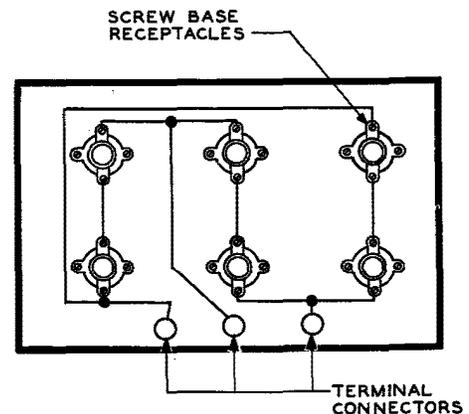
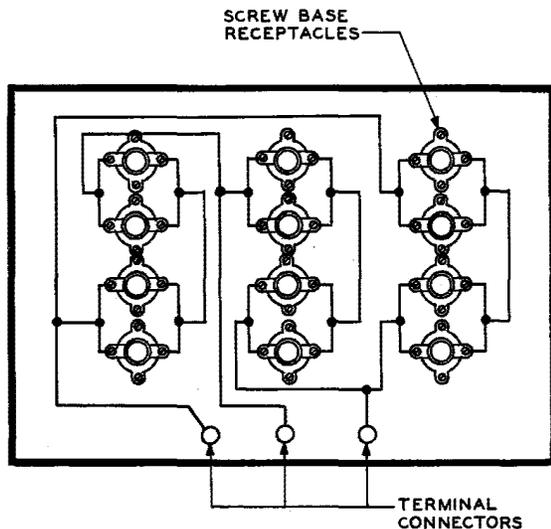

Fig. 10—Typical Panel Layout of Six Receptacles Wired in Delta With Two Receptacles in Series per Phase
Fig. 11 – Typical Layout of Twelve Receptacles Wired in Delta With Four per Phase in Series Parallel
panel and some on the rear. They should be 660-watt, 250-volt type. The receptacles should be mounted on a fireproof panel such as sheet-rock asbestos board. Receptacles should be mounted on at least 6-inch centers so that the heat may be carried away from each unit. Where the panel is to be mounted vertically, it is preferable to arrange the receptacles staggered to reduce overheating the units in the top row. If the board is to be laid flat on some surface, the wiring arrangement may be followed as shown in Fig. 10 and 11.
Fig. 10 shows a typical panel layout and wiring for this load.
4.11 For a 30 per cent load on a 20-kw machine, either two panels similar to Fig. 10 in parallel or one panel similar to Fig. 11 is suggested.